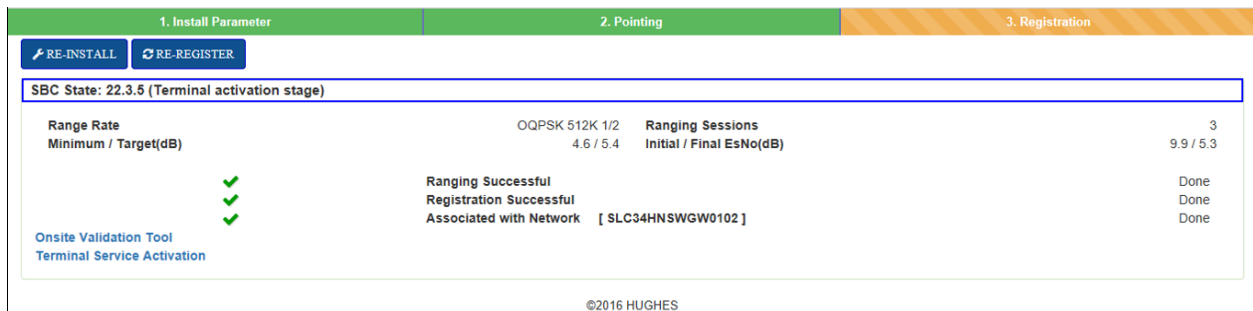

Figure 30: Terminal Activation link
5. The HughesNet Activation screen appears as shown in Figure 30.